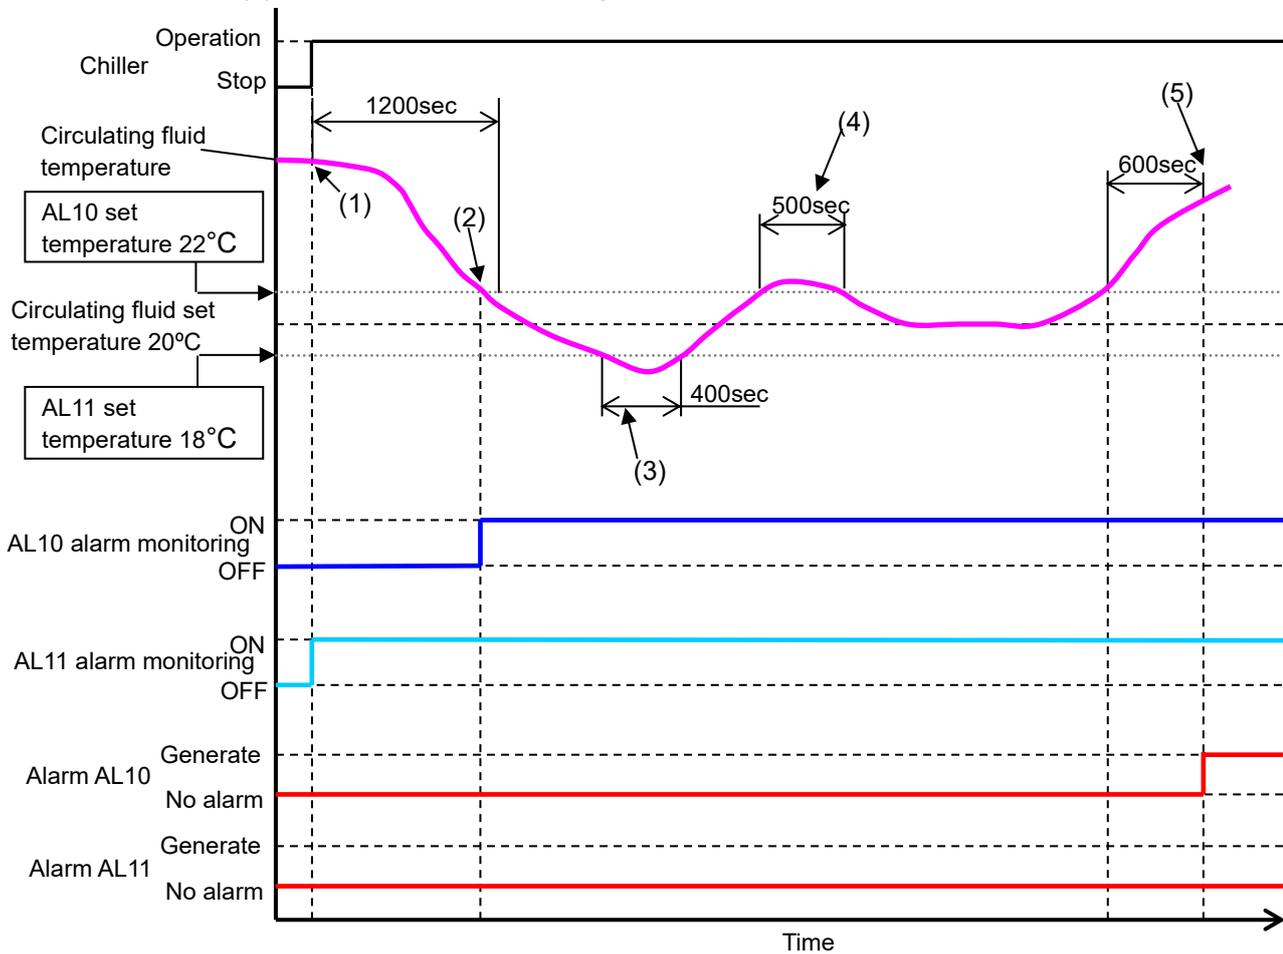

Fig. 5-5 Alarm monitoring timing
If [RUN] is selected as (3) "Monitor Timing" alarm monitoring condition, [OFF] and [AUTO] can be additionally selected. [AUTO] is a function to start alarm monitoring when the circulating fluid temperature rises/drops within the alarm setting temperature range in the time period specified by (4) "Start Time" (no monitoring time). Specific alarm monitoring timing is shown in Figure 5-5 Alarm monitoring timing.